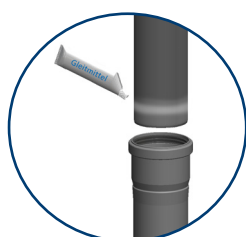

Fig. 3: grease the lower nipple of the flue
- ☞ always coat the lower part of the pipe with lubricating grease (fig. 3).